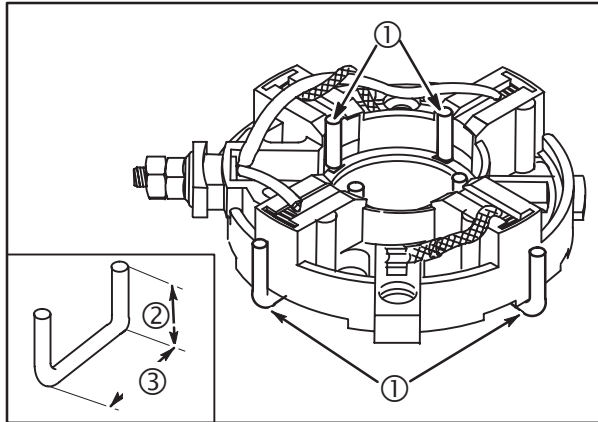

Fig. 22
End caps with radial compression type springs require 4 brush retainers (1) to hold brushes clear of armature commutator, Fig. 22.
Brush retainers can be made from Part #26634 control wire or similar material. The retainer is U shaped, with two legs $1/2''$ (13 mm) high (2), $3/4''$ (19 mm) long (3), Fig. 22, inset.